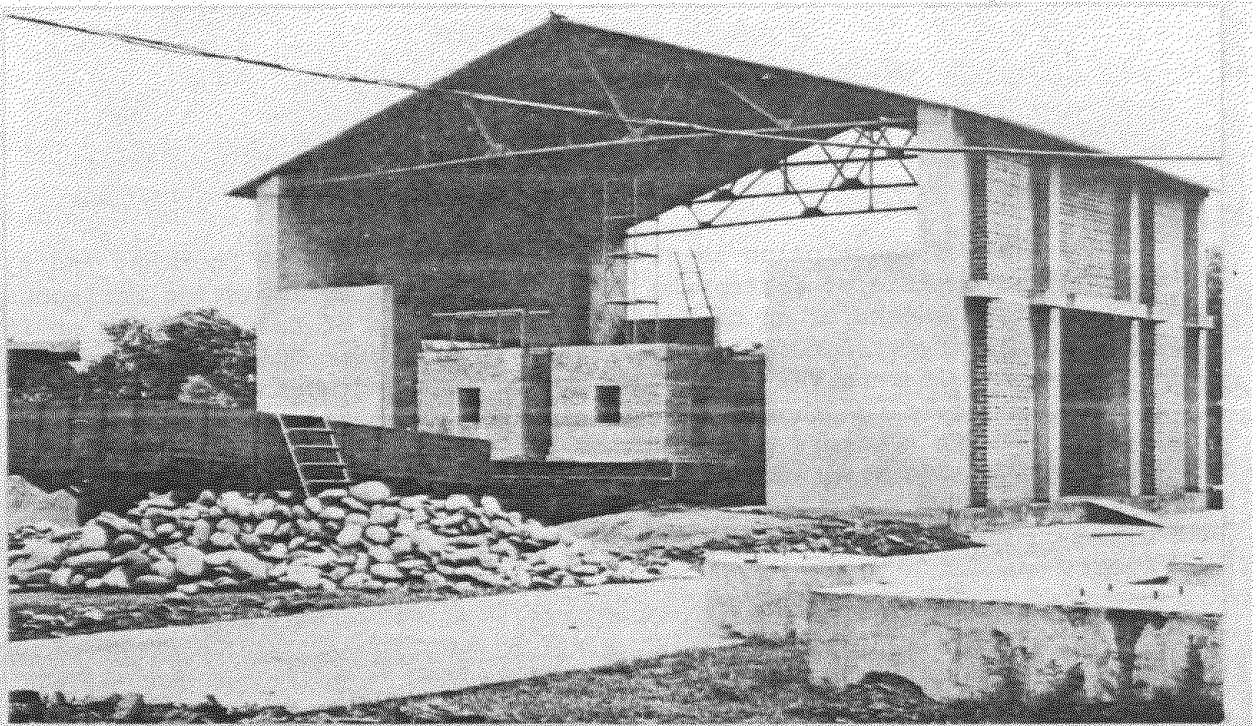

FIG. 1
The author is planning to work for one year at the University of Roorkee, Roorkee, U.P., India, testing structures of earth or of brick laid in mud mortar, on the railway wagon shock test facility there. This facility, illustrated in Figures 1, 2, and 3, consists of a table 6m x 7m, mounted on a railway carriage which is pulsed by impacts, through springs, from other wagons which roll down inclines. An example of acceleration pulses is shown in Figure 4, and examples of damage to test structures are shown in Figures 5 through 8. The facility is capable of imparting rough half-sine uniaxial acceleration pulses of 0.15 sec. duration, up to 2g amplitude, to the base of 20-ton test structures. The pulses are widely separated in time, therefore resonance of the test structures cannot be developed. Table 1 shows a record of table and building performance experienced in the first use of the facility, in 1977, (1).